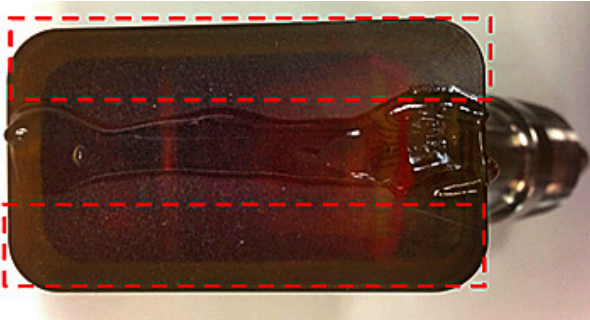

Figure 20: Transducer face with couplant
- Apply the supplied couplant to both transducer faces (see *Figure 20* below). The couplant displaces any air gaps between the transducer and the pipe to ensure a uniform acoustic signal path. For pipes up to 14" OD, do not apply couplant in the red areas shown; for pipes >14" OD, cover the entire surface with couplant.